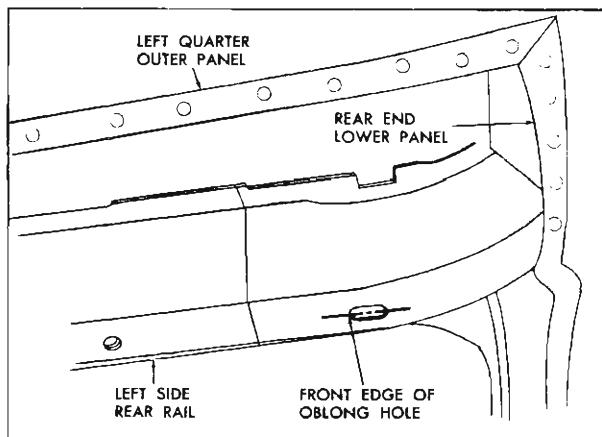

Fig. 11-4 Vertical Reference Point ("I")
- j. Center front edge of oblong hole in bottom surface of compartment pan side rear rail (located slightly forward of rear end lower panel). See Fig. 11-4.